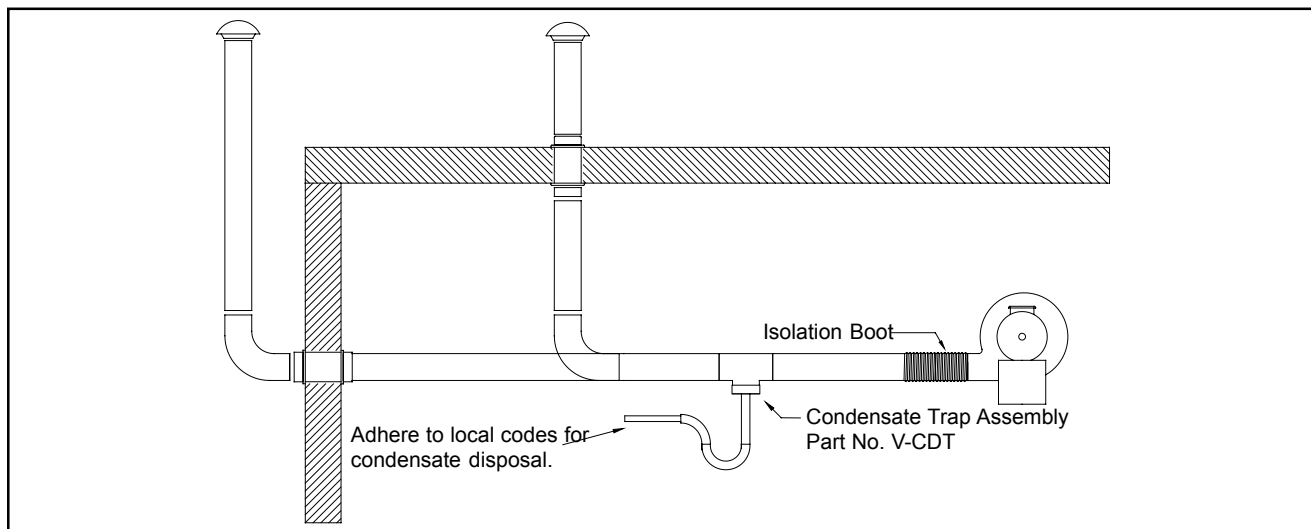
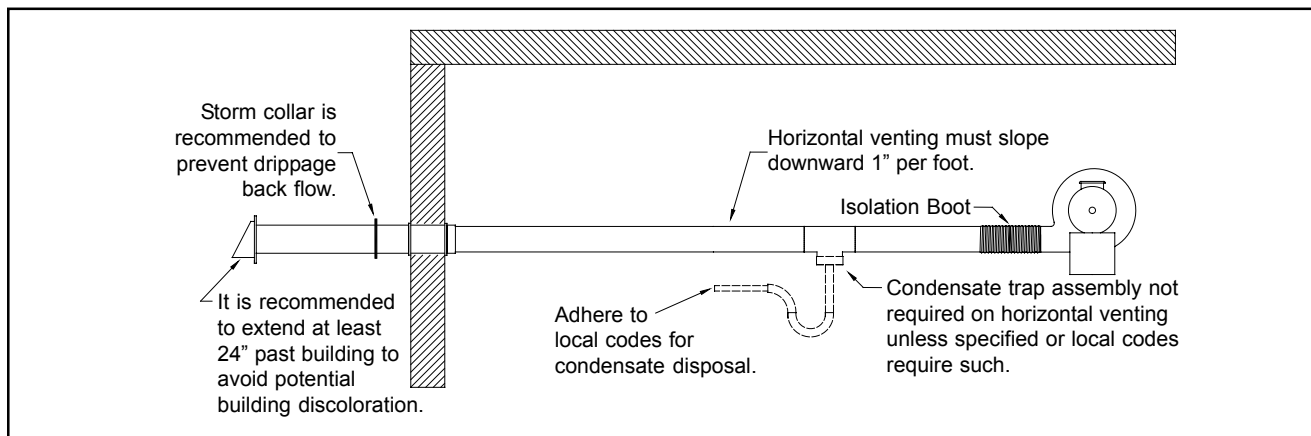

Figure 3-20
Figure 3-21
- A condensate trap is required on the discharge side if there is a vertical rise in the discharge line (figure 3-20). On a horizontal discharge the condensate trap can be eliminated if the discharge is pitched down one inch per foot (figure 3-21). Check with local codes for proper condensate disposal.